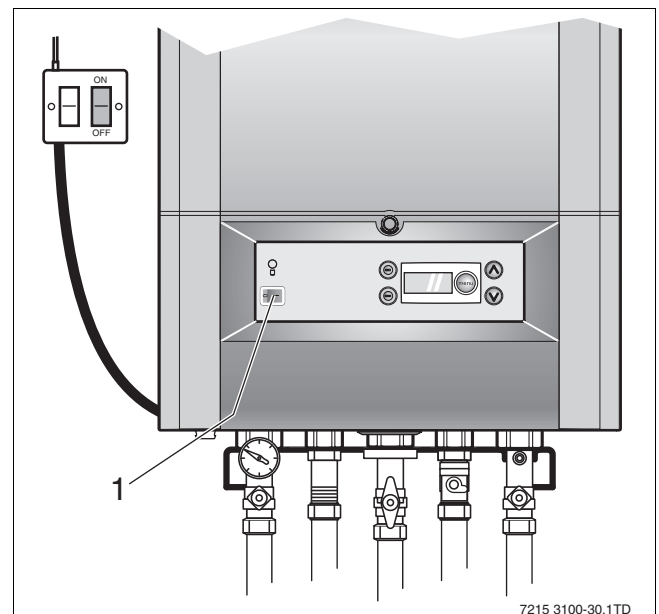

Fig. 30 DBA
Electrically isolate the appliance at the fused spur before removing the case (→ fig. 30).
The means of isolation must be accessible to the user after installation (fig. 30, item 1).